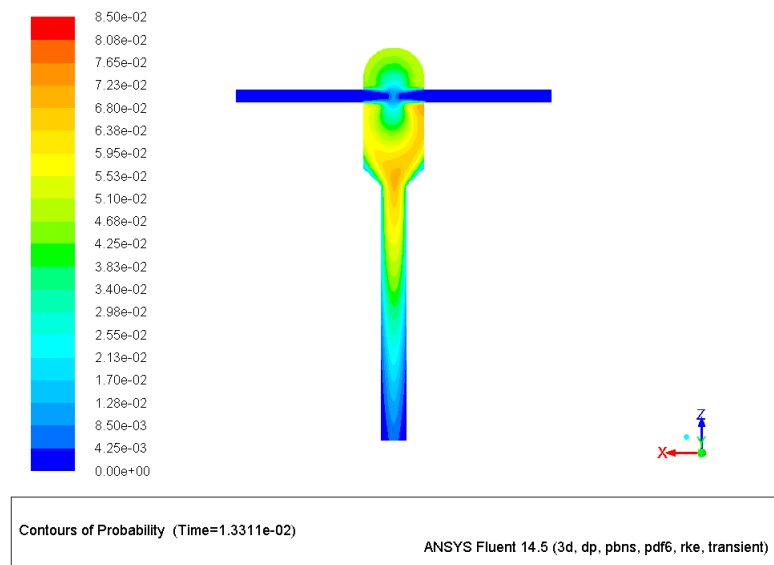

Figure 10: Contours of Probability After 100 Time Steps
*The mean unsteady flamelet species converge when the probability marker has connected/diffused out of the domain. Refer to the contours of probability (see Figure 10).*
- (c) Click Display (see Figure 10).